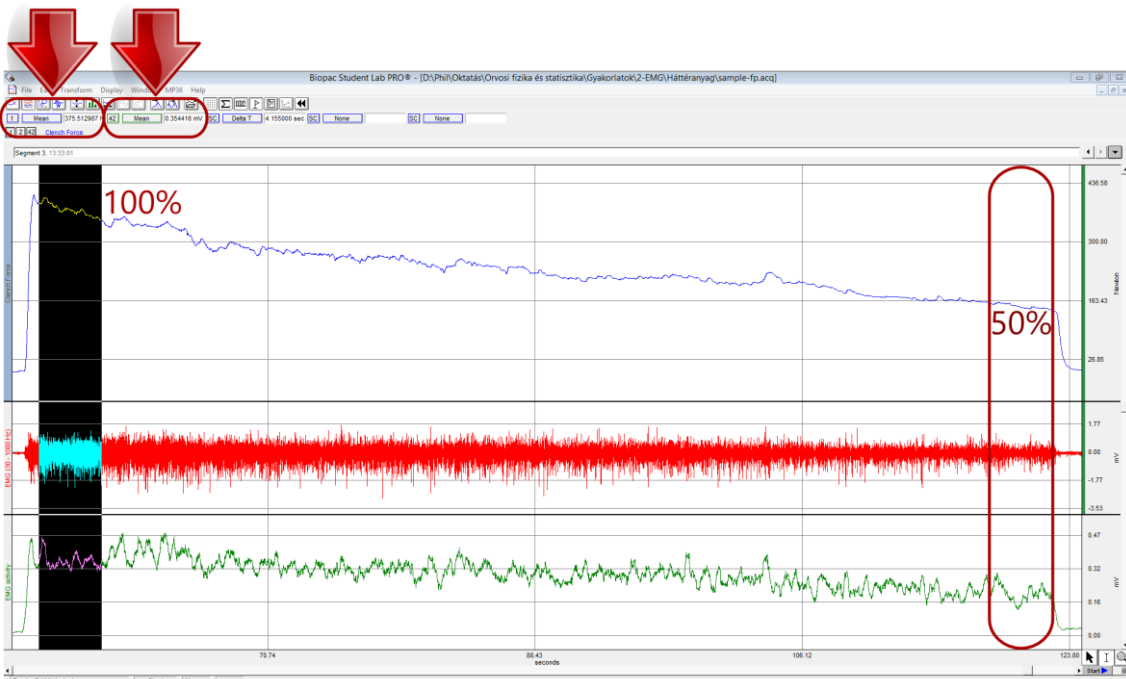

Figure 4. Determining the mean values at the initial maximum (100%) and at the  $\approx 50\%$  end-manoevre level.
- Measure the mean values of the force and the EMG activity at the initial maximum (100%) effort and the  $\approx 50\%$  end-manoevre level (see Figure 4):